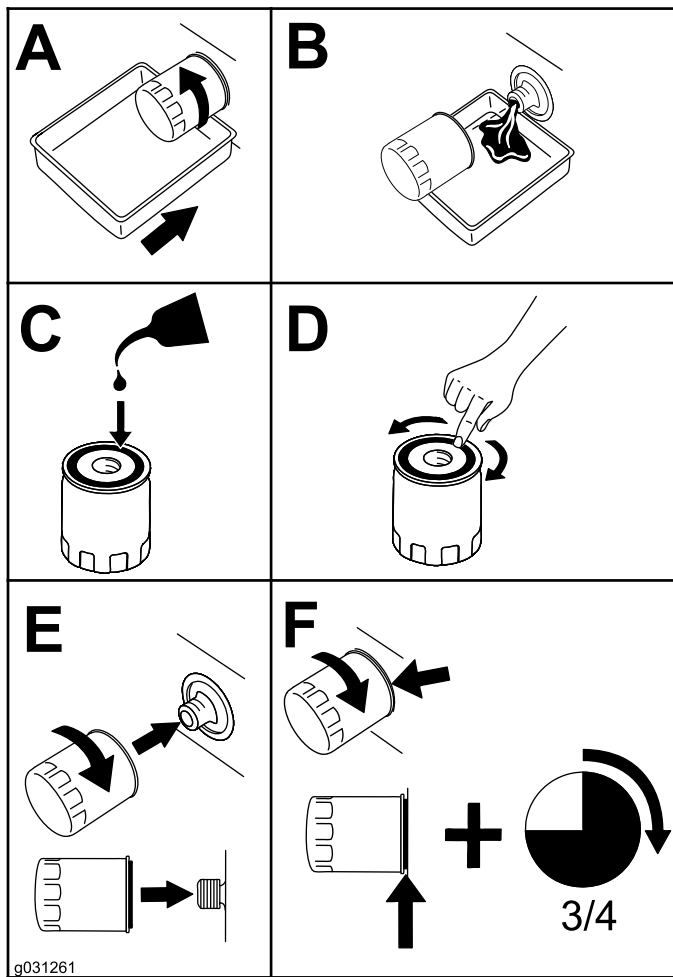

Figure 53
10. Change the oil filter (Figure 53).